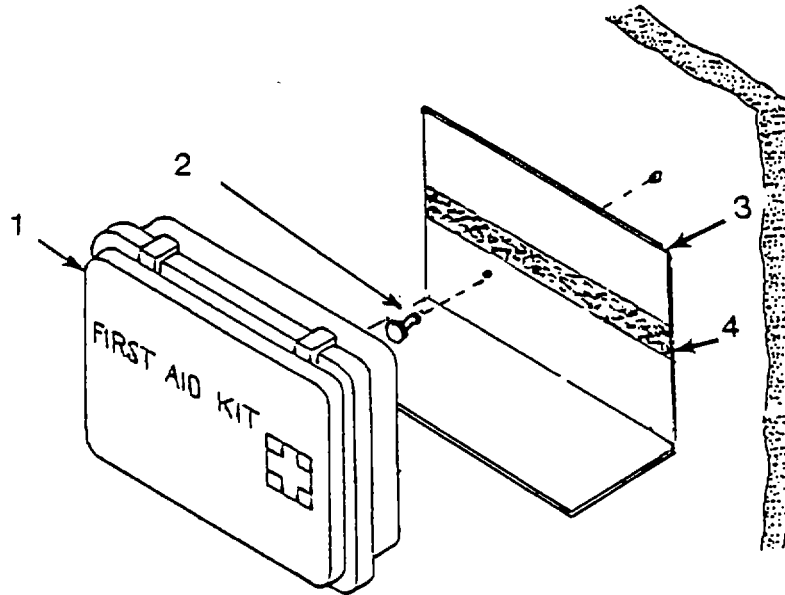

Figure 4-18. First Aid Kit
- a. Inspect. (See Figure 4-18.)
- (1) Check first aid kit (1) for security of mounting.
- (2) Check first aid kit contents for inventory and condition.
- b. Replace. (See Figure 4-18.)
- b. Replace. (See Figure 4-18.) - Continued